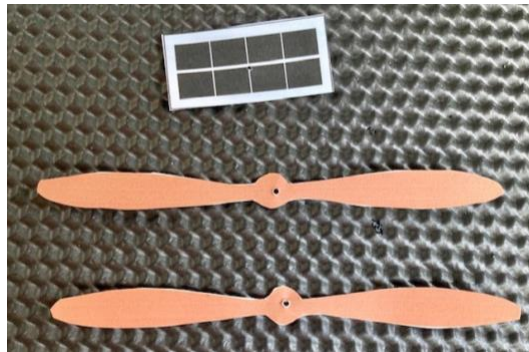

Figure 3. Cut out one set of parts for your helicopter.
- Print out the final page of this document on cardstock or other stiff paper. As shown in *Figure 3*, you will need to cut out one set of parts (a solar panel and two rotor blades) for each helicopter you are making. NOTE: The final page contains two sets in case you are making multiple models – you only need **one** set per model.